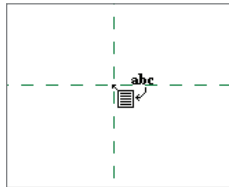

FIGURE 11.80 Placing the tag onto the reference plane intersection
9. In the model, place the tag directly on the intersection of the reference planes, as shown in Figure 11.80.